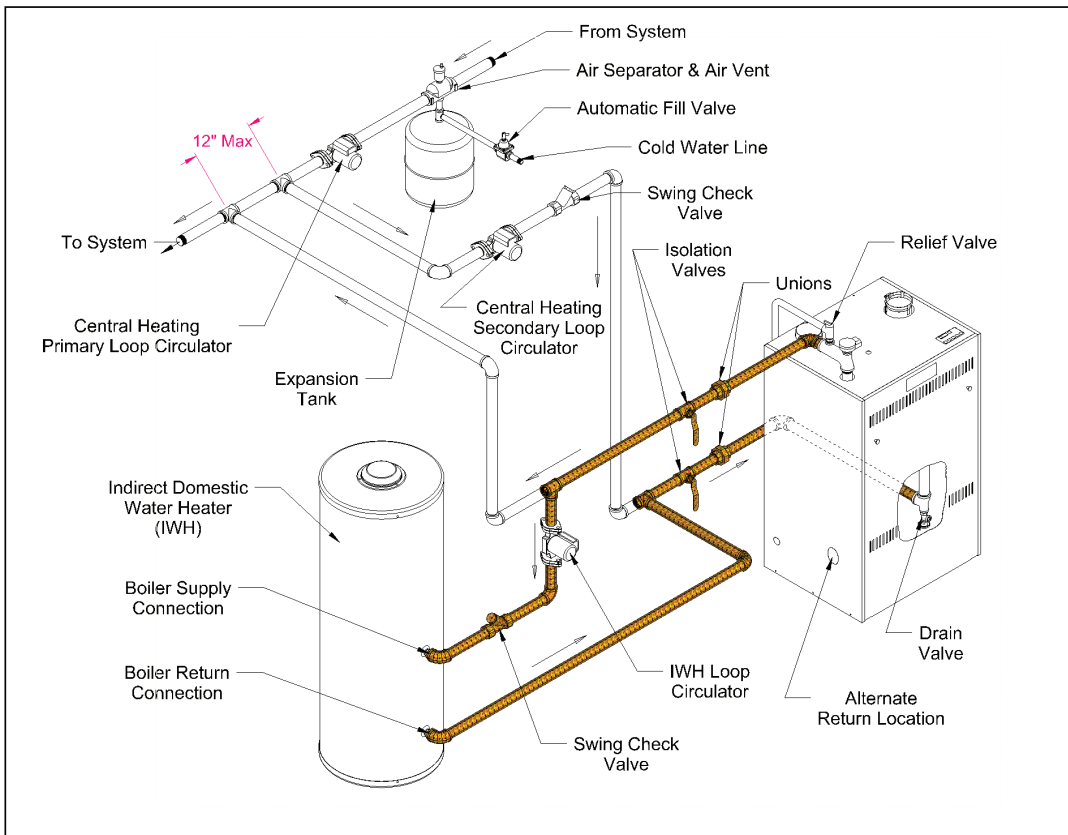

Figure 8.4b: Piping Method #1 - Indirect Water Heater Loop Piping (Shaded)
- a) Count all fittings in the planned Indirect Water Heater Loop (the indirect water heater loop consists of the shaded piping in Figure 8.4b). In doing so, you will be counting some piping and fittings which are common to the heating system secondary (“boiler loop”) piping and which were counted in Step 2a above. Do not count the elbows or fittings supplied with the boiler.